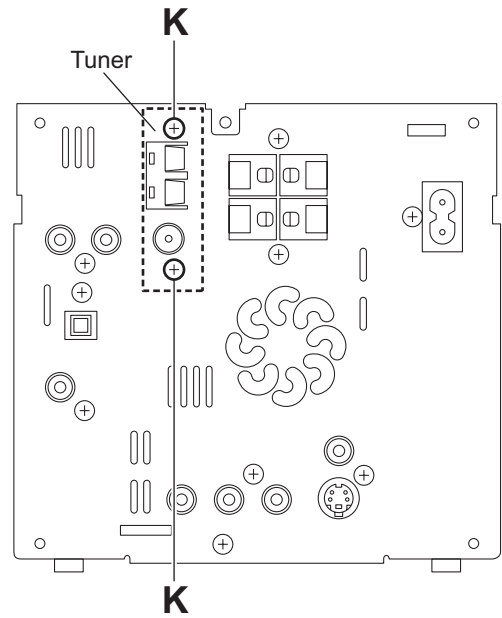

Fig.10
3.1.4 Removing the tuner (See Figs.10 and 11)
- From the back side of the main body, remove the two screws **K** attaching the tuner to the rear panel. (See Fig.10.)
Remove the tuner as required. (See Figs.10 and 11.)